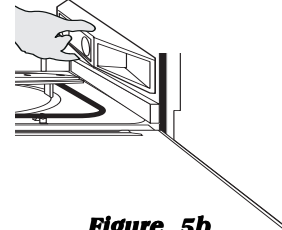

Figure 5b
- Check that the dishwasher is level from front to back by taking out the lower rack, place level on the lower rack wheel support at the bottom of the tub. **See Figure 5b.**